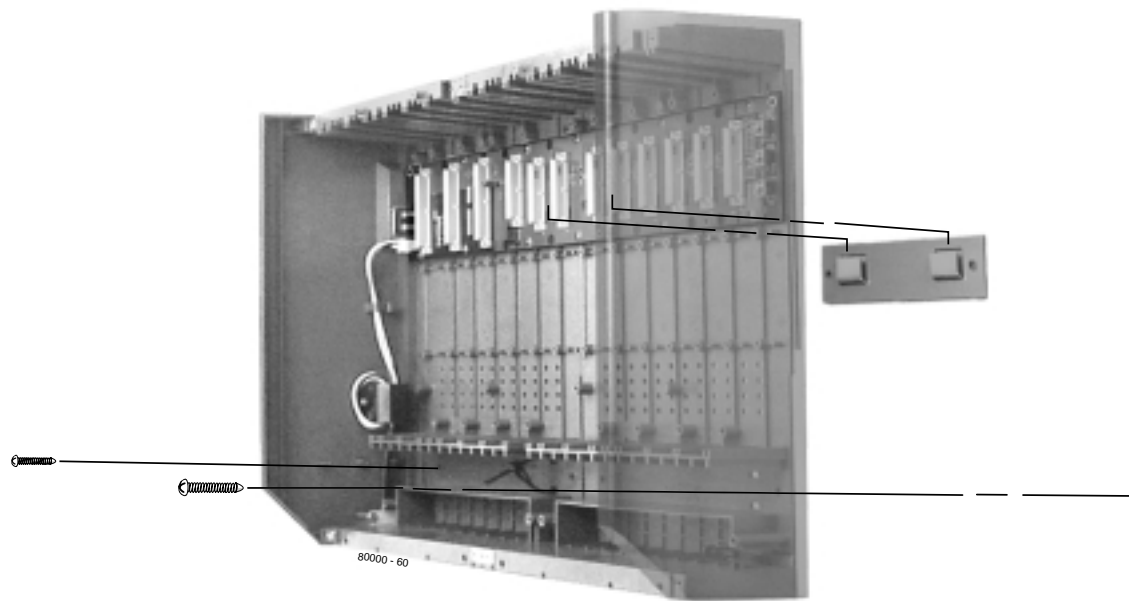

Figure 1-7 HANGING THE 8 SLOT CABINET
- See Figure 1-7 when hanging an 8 slot cabinet.